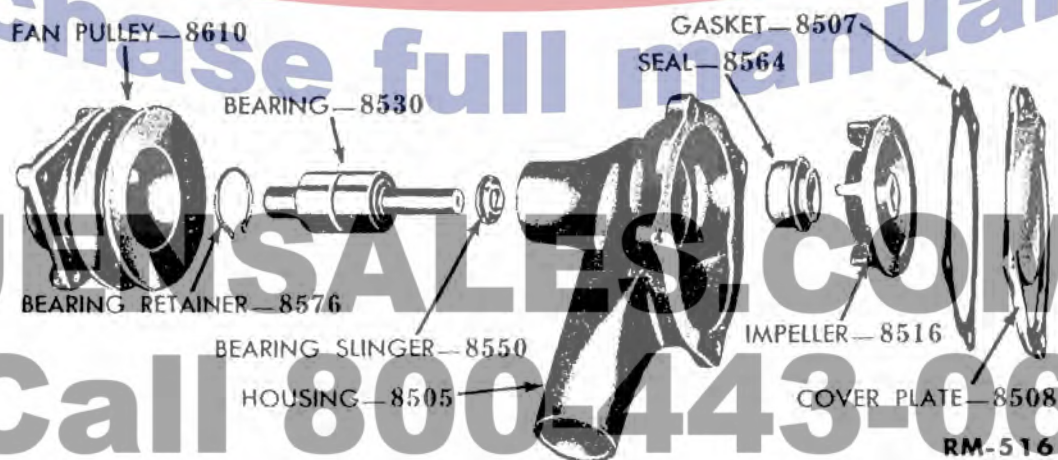

Fig. 34—Water Pump, Disassembled
c. Inspection. Replace a cracked or damaged water pump body (fig. 34). Replace the water pump seal if it is worn. Replace an impeller if it is cracked, excessively pitted, or if it has broken or damaged fins. Replace a pulley hub that is cracked or has stripped threads. Rotate the water pump bearing. If the bearing binds or has a tendency to stick, replace the bearing assembly. Replace the bearing assembly if there is end play or side play in the shaft.